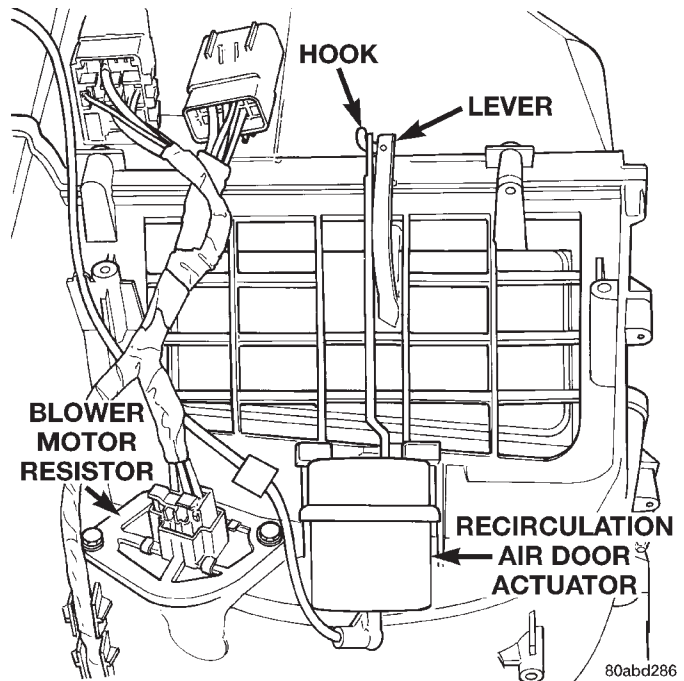

Fig. 46 Recirculation Air Door Vacuum Actuator Remove/Install
- (1) Disconnect and isolate the battery negative cable.
- (2) Remove the kick cover from the heater-A/C housing. See Kick Cover in this group for the procedures.
- (3) Unplug the vacuum harness connector from the recirculation air door actuator (Fig. 46).